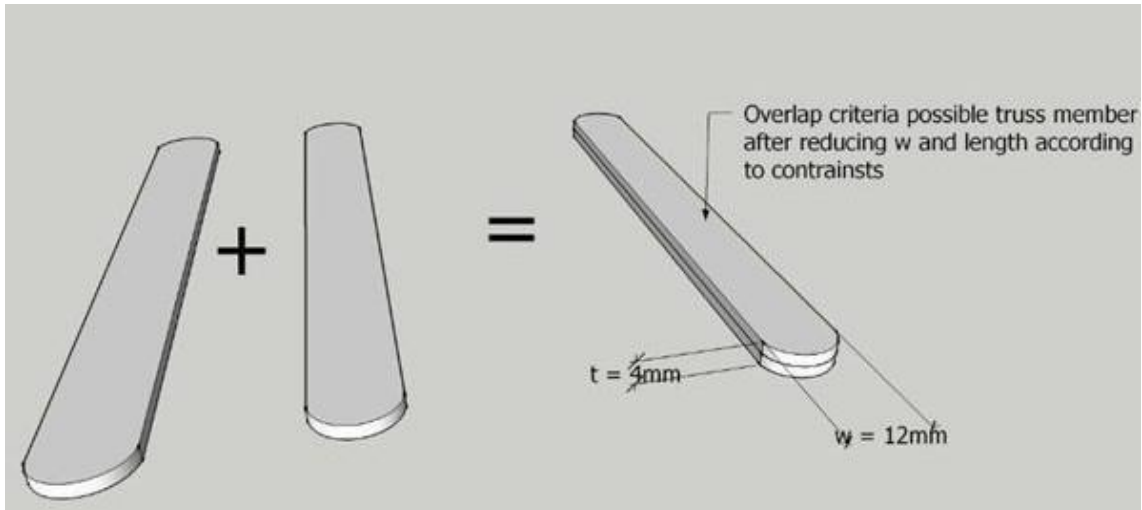

**FIG. 1** (The base should not be fixed, use counterweights to balance)
4.A pulley arrangement with a thread should be prepared as shown in fig. 1 for application of load.